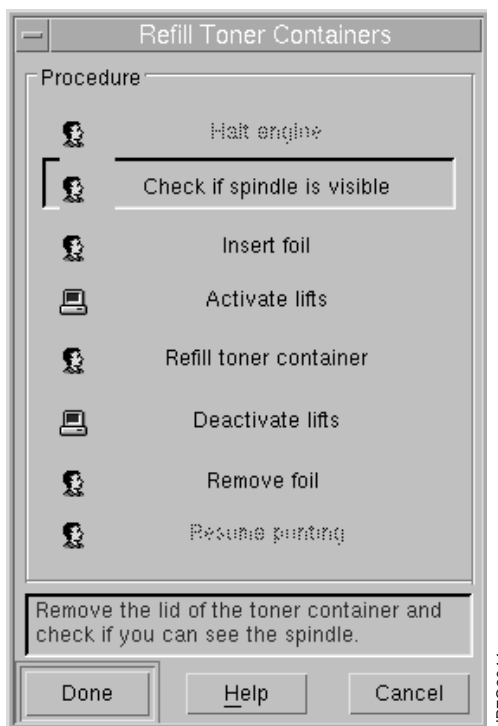

Figure 259. Refill Toner Containers Window
- 3 Open the **Refill Toner Containers** window, as shown in Figure 259.